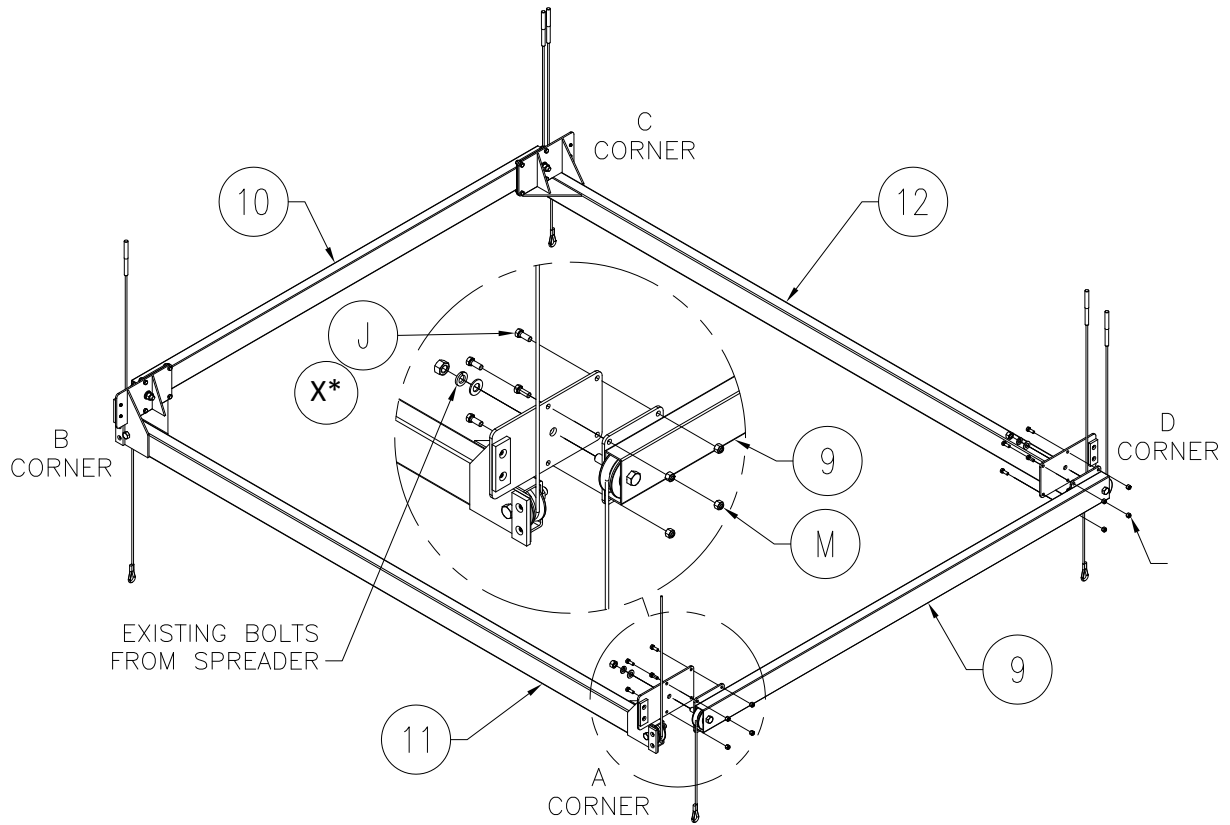

Figure 3-5.
1. Refer to Figure 3-5. Position both load tubes and spreader tubes on the ground as shown in the diagram.